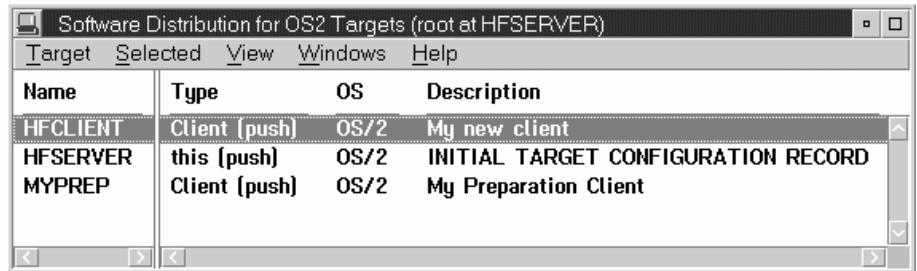

Figure 131. TME 10 Software Distribution for OS/2 targets window
- 7 Click on the **OK** push button and the TME 10 Software Distribution for OS/2 Targets window is displayed, as shown in Figure 131.